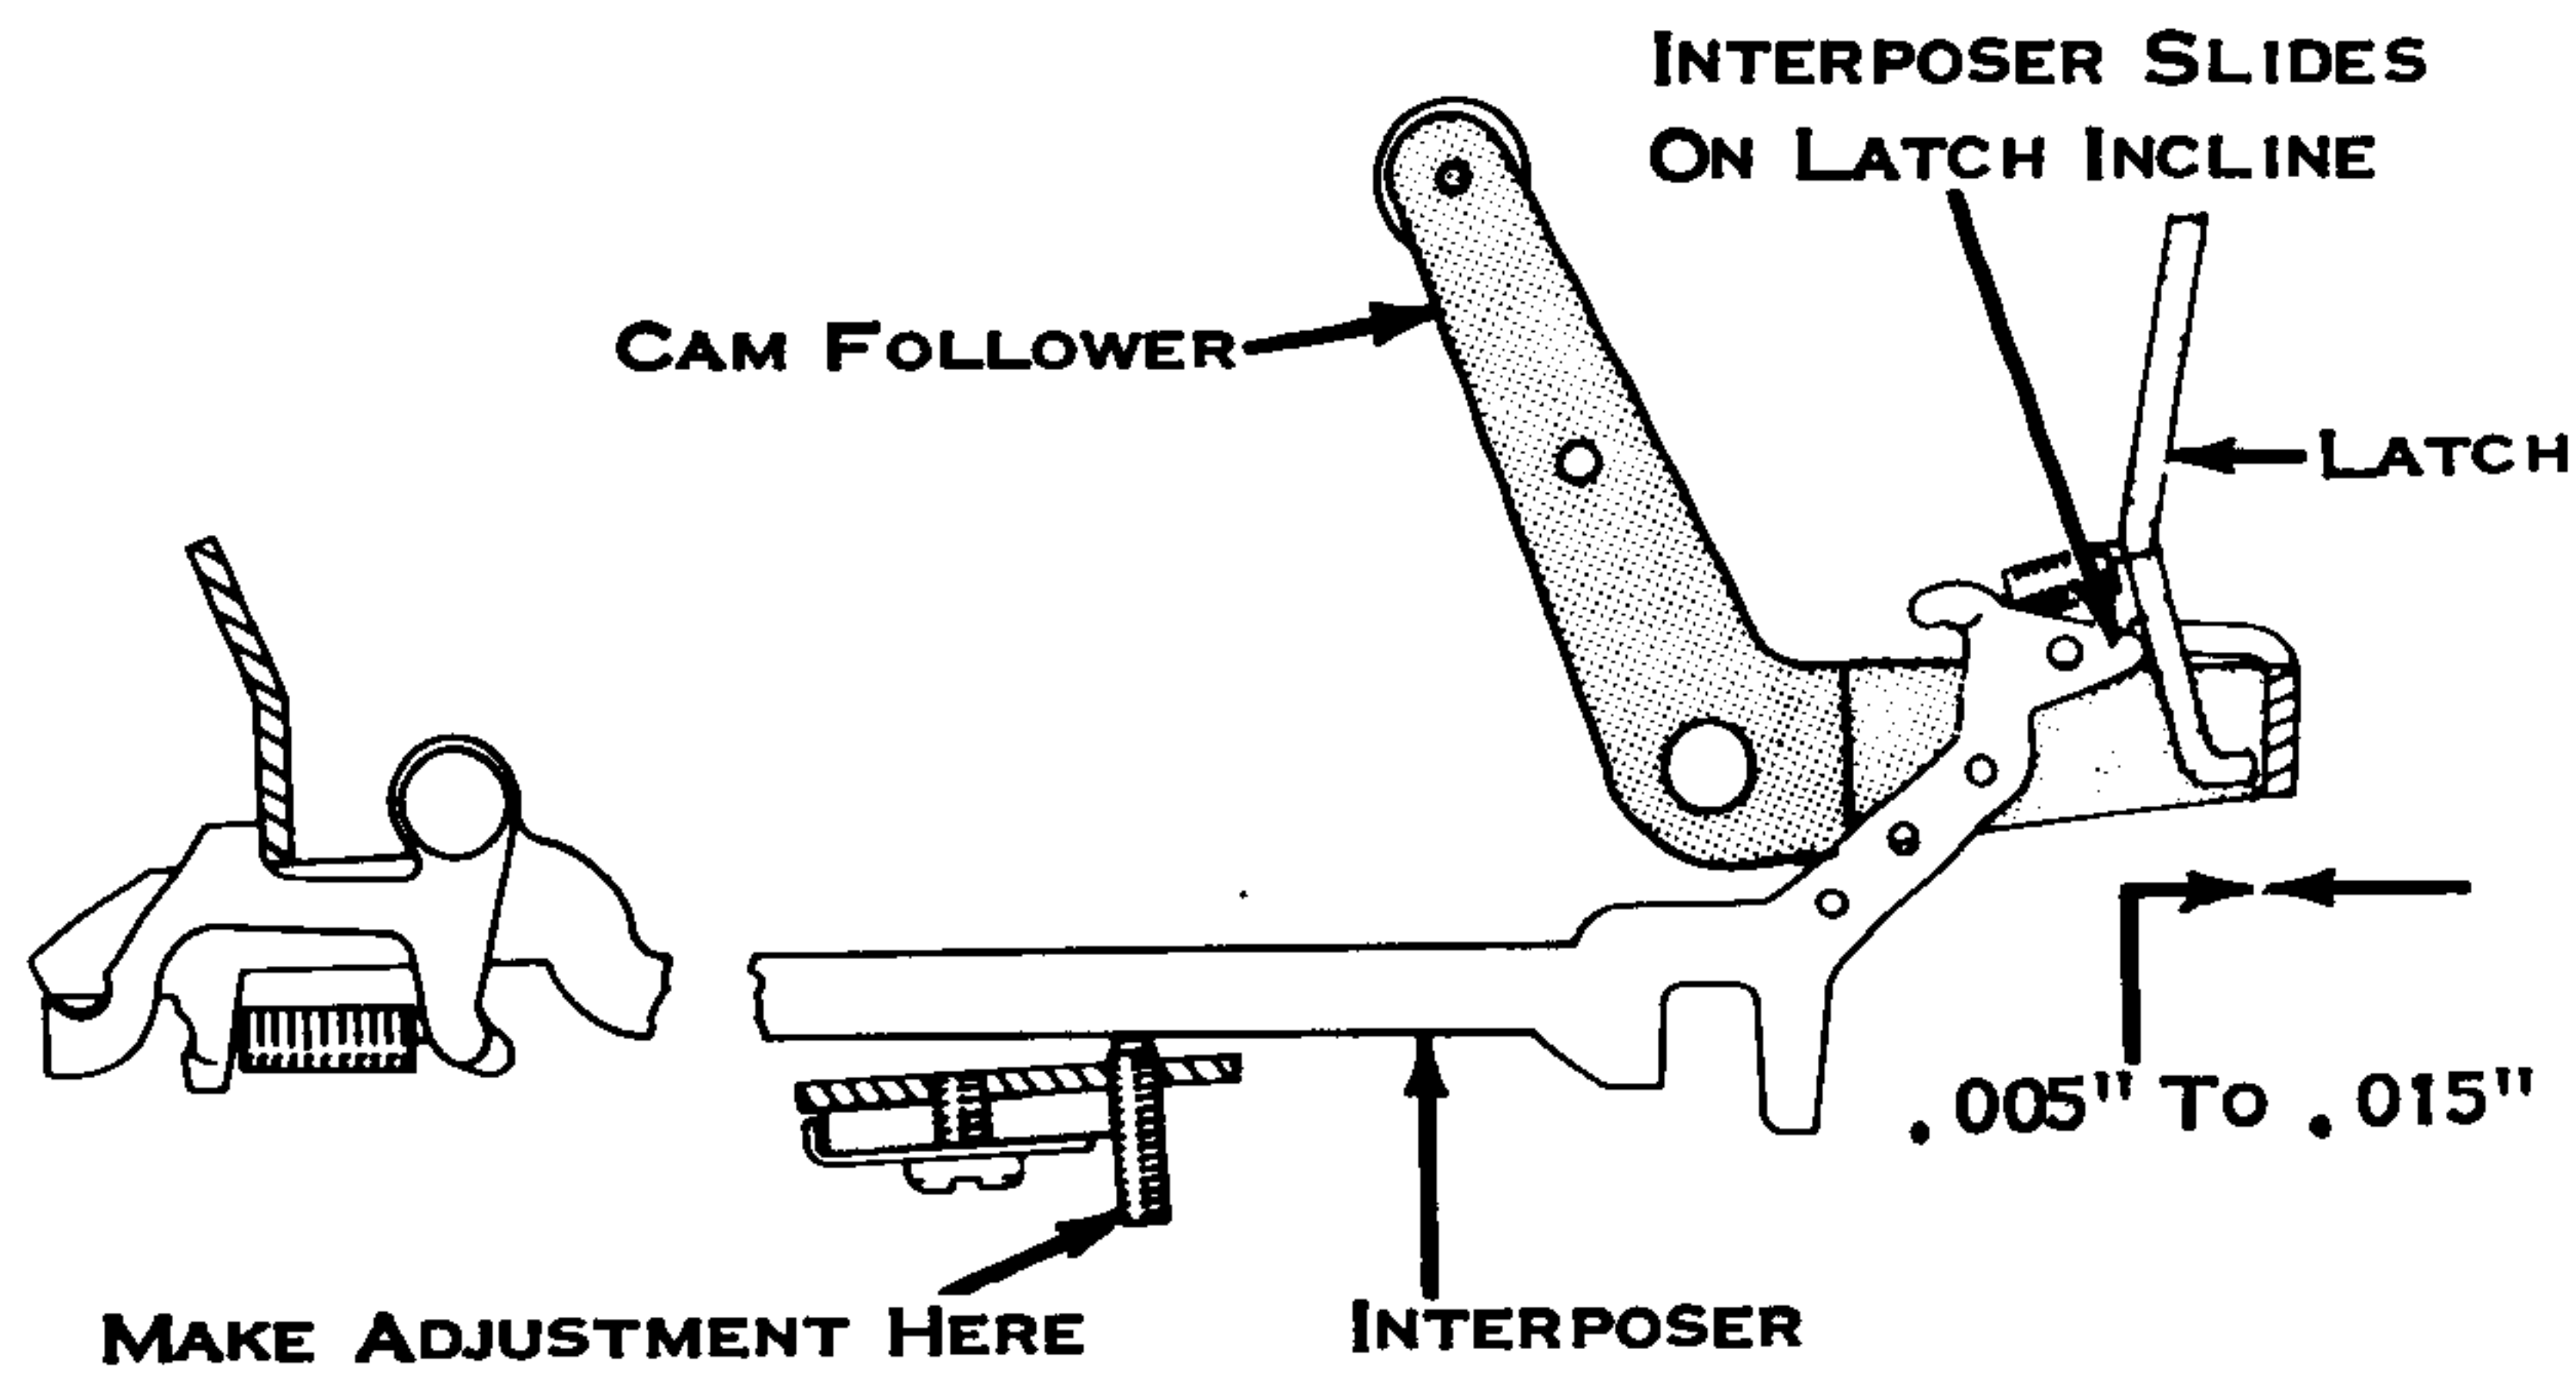

Figure 121. Interposer Adjusting Screw
3. Interposer Adjusting Screw (Fig. 121) - Adjust for a clearance of .005" to .015" between the operational latches and their respective cam followers. CAUTION - If the cam followers are operated too far when this adjustment is being checked, the interposer restoring bail will force the interposers forward slightly and an erroneous adjustment will result. The keylever pawl to interposer clearance should be rechecked after this adjustment.